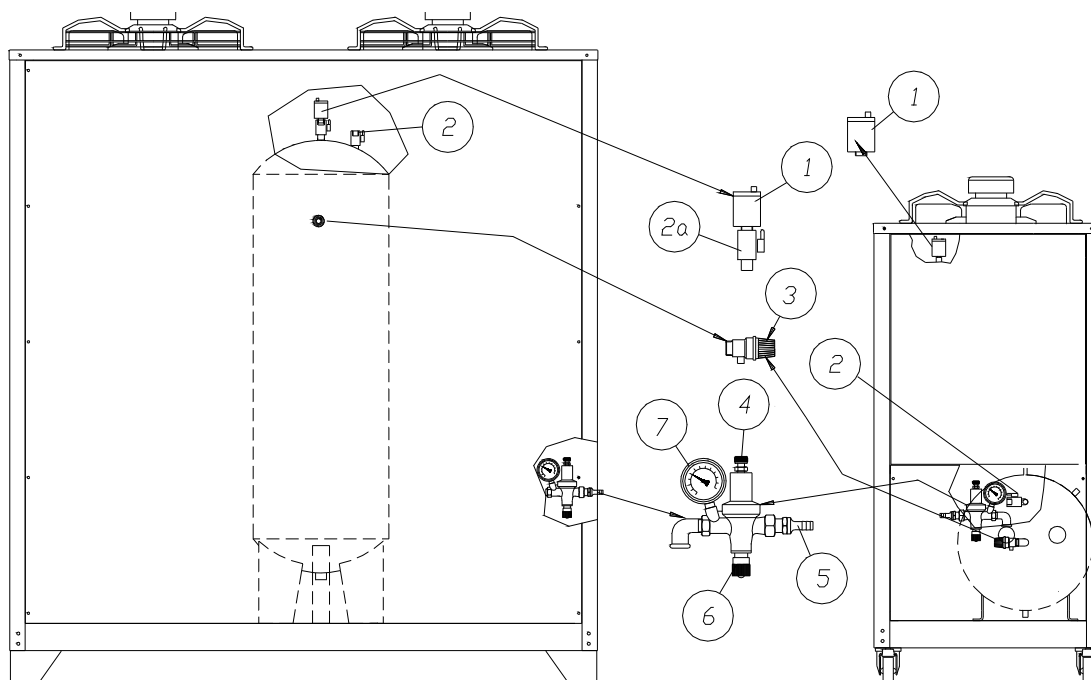

Fig. 10
- Connect the water from the water supply to connection (5) (see Fig. 10 page 25);
- open the tap (6) and the ball valve (2);
- if necessary, use the pressure reduction unit (4) to set the charging pressure to 50 kPa (0.5 bar), already adjusted at the manufacture factory, measured on the pressure gauge (7). The machine is supplied with a pressure reduction unit already set to 50 kPa (0.5 bar);
- wait for water to come out of the ball valve (2) with a constant flow. **It is important to prevent air pockets from being left in the tank;**
- shut off the ball valve (2) and open (only for CH180, CH280, CH380 and CH480) the (2a).
- when charging is complete, shut off tap (6);